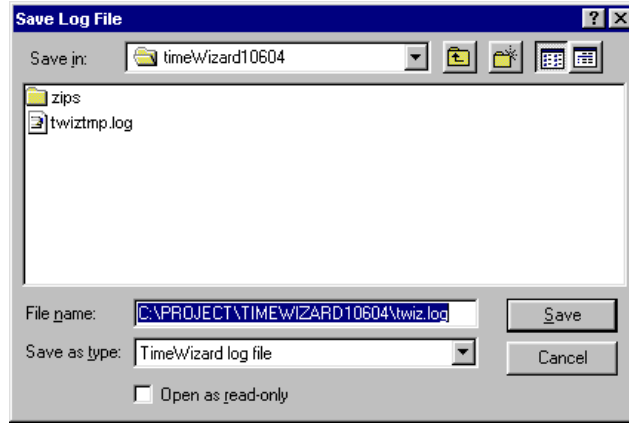

Figure 3-30. The Save Log File Dialog Box
17. Select the Save Log File to check-box, then click the button that is adjacent to the check-box to invoke the Save Log File dialog box, which appears as shown in Figure 3-30.